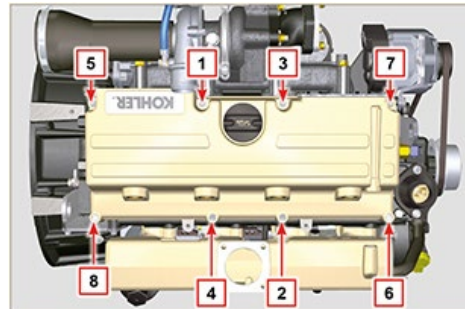

Fig 6.26
3. Attach the rocker arm cover **C** on the head **AL** with the screw **L** adhering to the tightening sequence shown in **Fig. 6.26**.